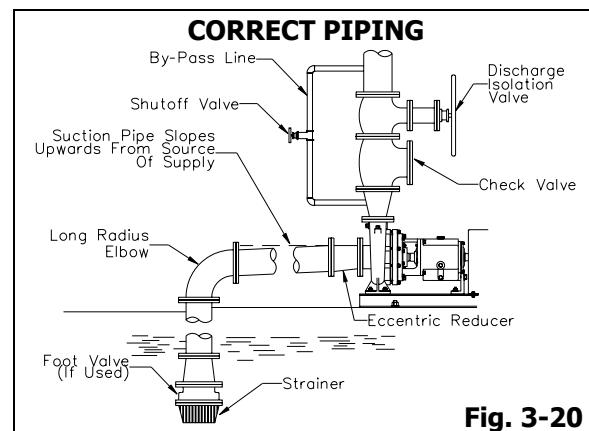

Fig. 3-20
3. Reducers should be eccentric at the pump suction flange with **sloping side down** (Figs. 3-20, 3-21 and 3-22).